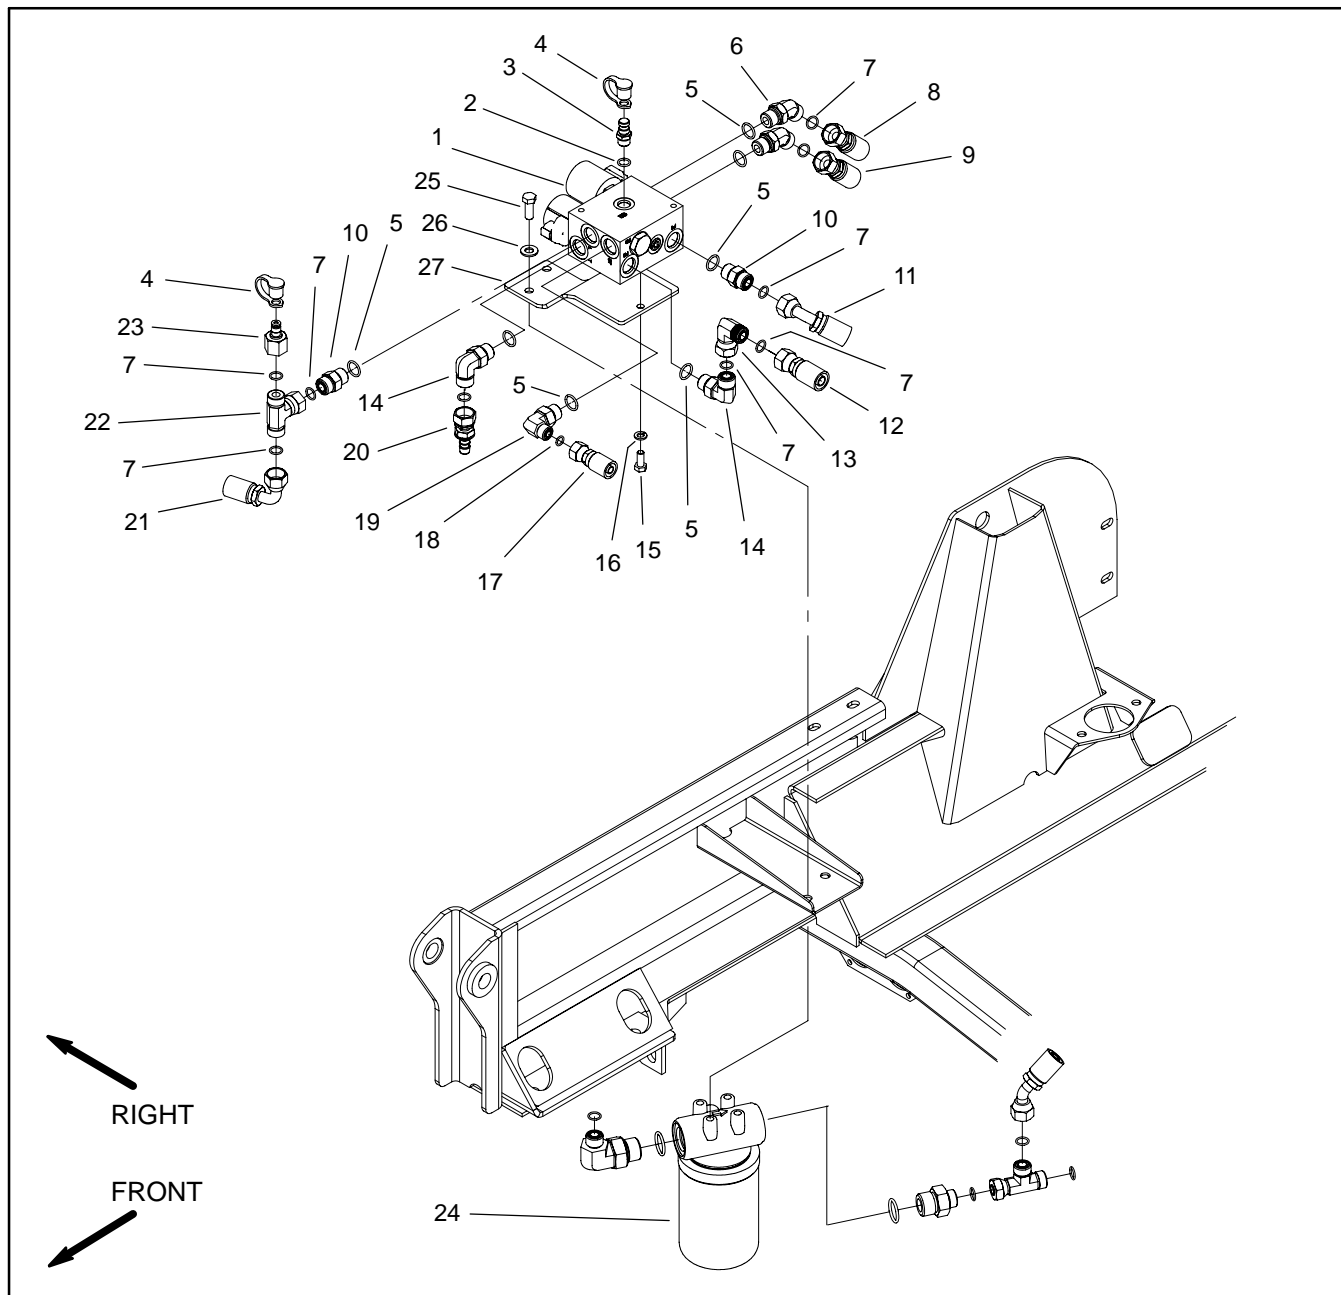

Figure 85
Removal (Fig. 85)
7. Remove hydraulic manifold from the frame using Figure 85 as guide.
Installation (Fig. 85)
2. Install fan drive manifold to the frame using Figure 85 as guide.